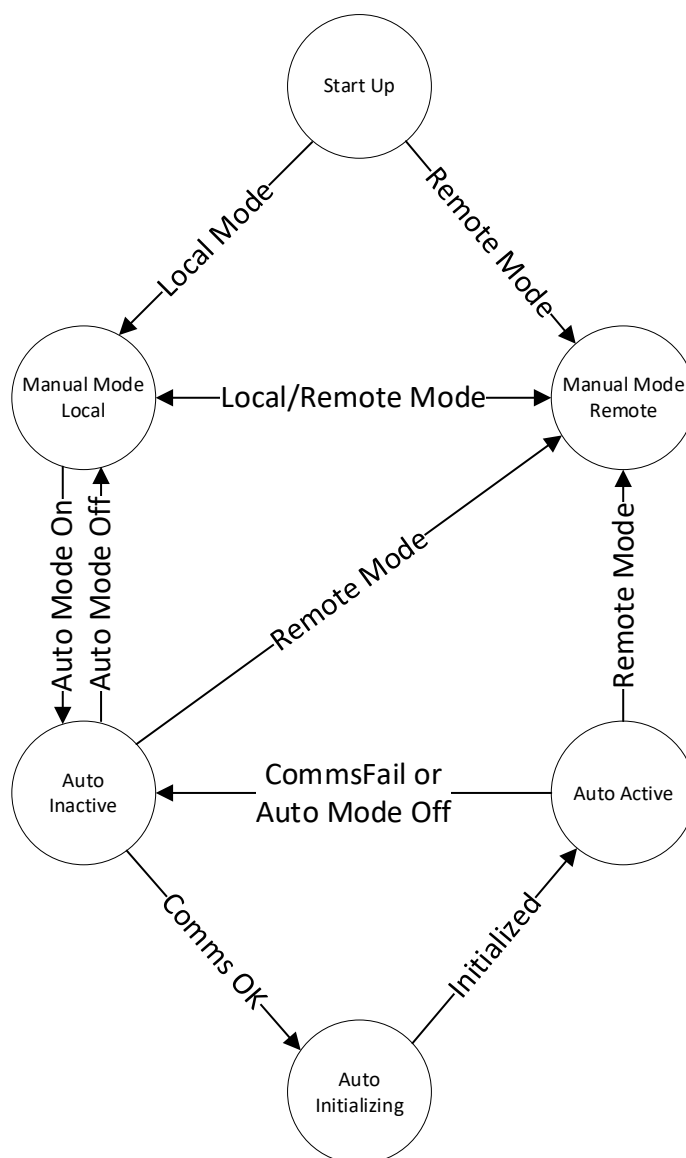

Figure 8- State Transitions for MCS Operating Modes
In general, the MCS will support two (2) operating modes that are described in the following subsections. The possible transitions between these two operating modes can be seen in Figure 8.